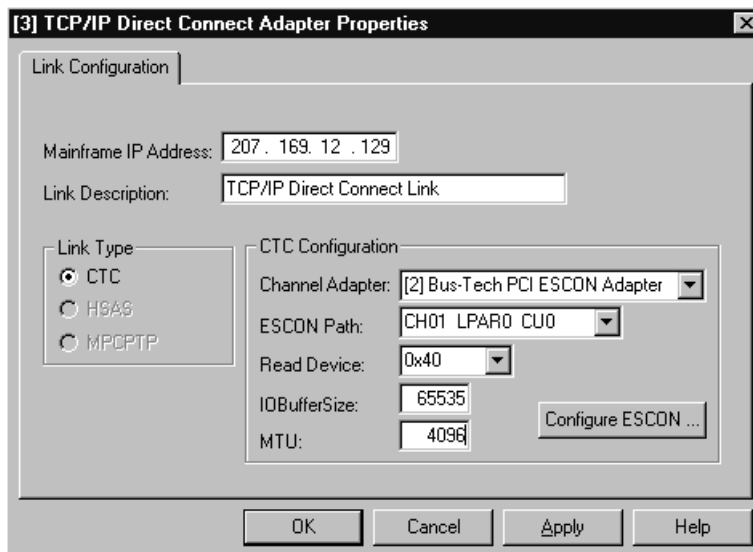

Figure 6-5. TCP/IP Direct Connect Properties
1. Verify that the Mainframe IP address specified in the TCP/IP Direct Connect Properties screen (Figure 6-5) matches the IP address assigned as the Home address in the TCP/IP Profile on the mainframe (Figure 6-6).
- Verify that the subchannel address defined in the TCP/IP Direct Connect Properties screen (Figure 6-5) points to the correct device in the ESCON configuration so that the Unit subchannel address assigned in the ESCON configuration matches the DEVICE statement of the TCP/IP Profile (Figure 6-6). In the example, 'a40' indicates a channel address of 'a' and a subchannel address of '40'. Keep in mind that a CTC link actually uses two subchannels. Specifying '40' implies that both subchannel '40' and '41' will be used for this link.